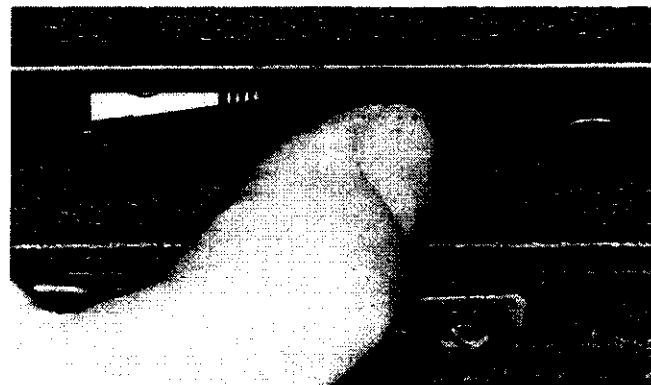

Figure 6. INSERTING BATTERY COVER
h. Batteries are positioned in the rear rangefinder housing. Slip two penlite batteries into the openings, alternating top and bottom position. Replace the cover by slipping one end into the opening; press in the other end and move flush (figure 6). Lamp should light when red button on left is pressed.